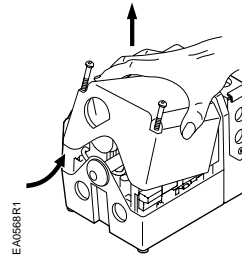

Figure 3.
2. Lift the screws and raise the cover. See *Figure 3*.